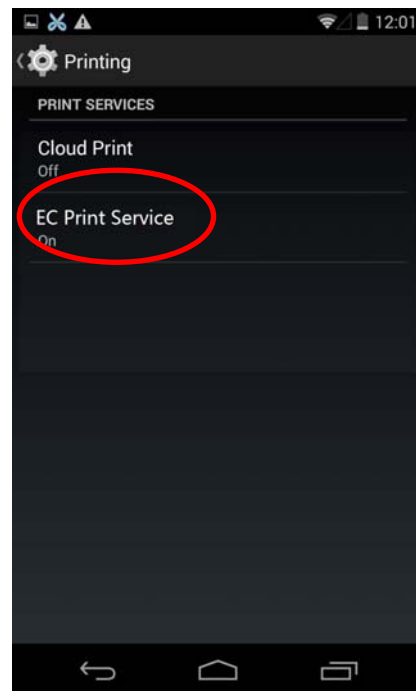

Figure 22
3.3 Find out “EC Print Service” in “Printing” interface and enter into, as shown in Figure 22.